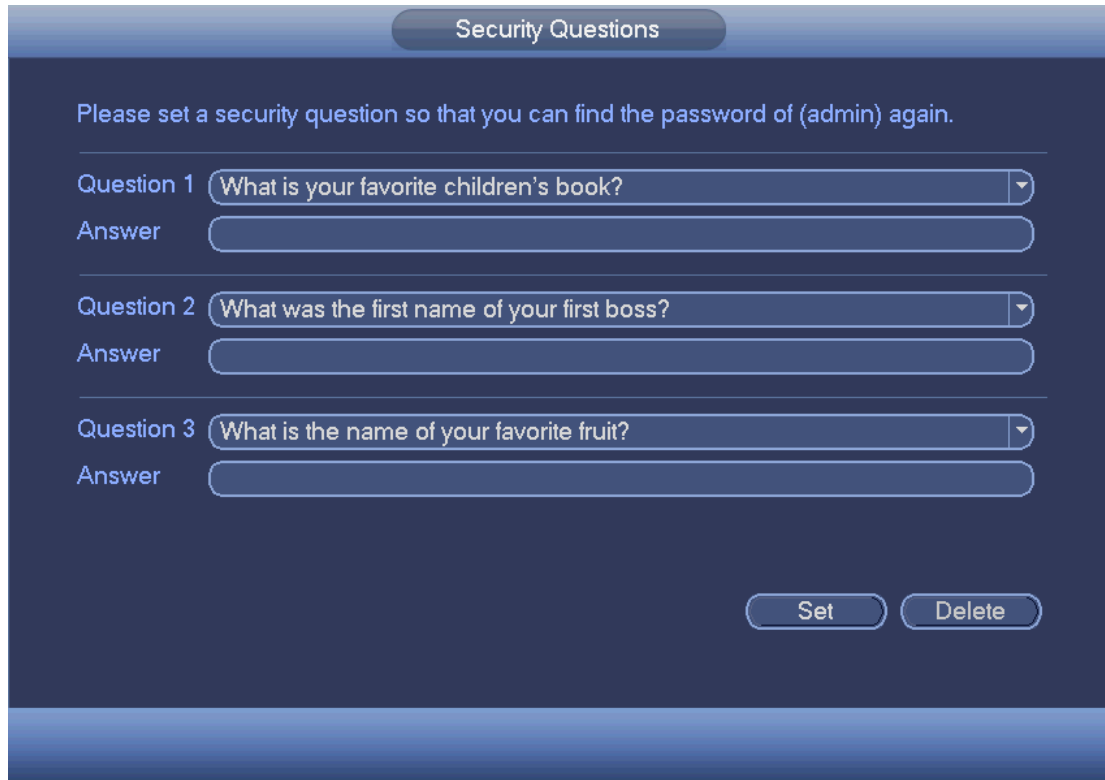

Figure 4-224
Step 1 Click Security question, enter the following interface. See Figure 4-224.